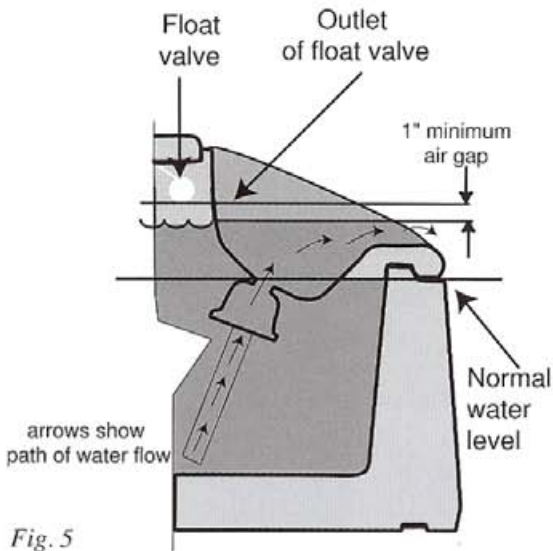

Fig. 5
**No back-siphoning** The JUG meets all requirements for dairy approval. If your water supply has pressure up to 80 psi and the JUG float valve should become stuck open\* allowing full flow of water into the JUG tank, the water will overflow at the bowls but will maintain a one inch air gap minimum between the water level in the tank and the outlet of the float valve (see Fig. 5). This air gap prevents back-siphoning into your farm water supply. We believe this requirement cannot be met by most of our competitors. This feature is not only important for dairy approval, but also is important for the protection of your family.